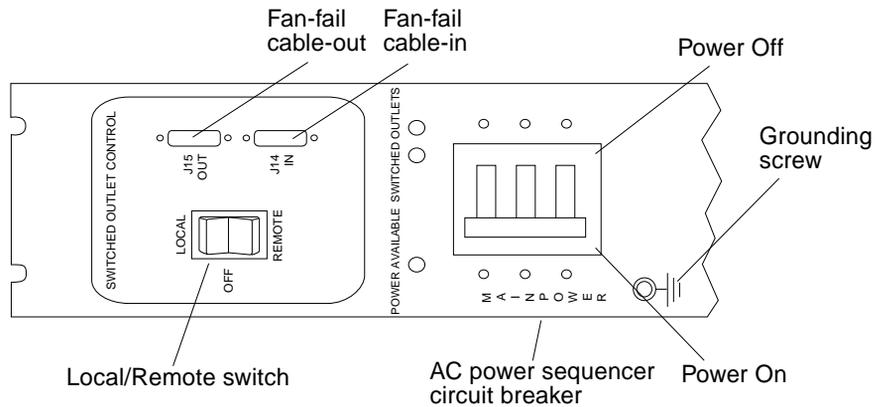

FIGURE 3-9 Power Sequencer Control Panel
2. **Verify that each AC power sequencer circuit breaker is in the Off position and the Local/Remote switch is in the Remote position** (FIGURE 3-9).